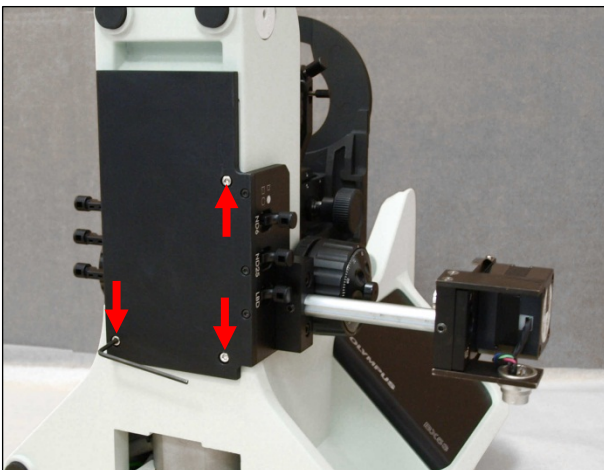

Fig. 5
- ▶ Mount the MFD-2 (1) onto the microscope as illustrated in Fig. 5. For this, use the Allen screws M3 x 8 DIN 912 (8) and Allen key 2.5 (6).